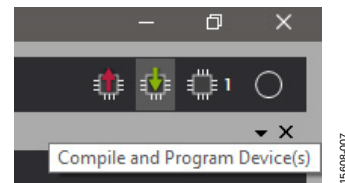

Figure 7. **Compile and Program Device(s)** Icon
3. After loading the file in the GUI, click the **Compile and Program Device(s)** icon (see Figure 7) to load the configuration to the ADM1266 nonvolatile memory (NVM).